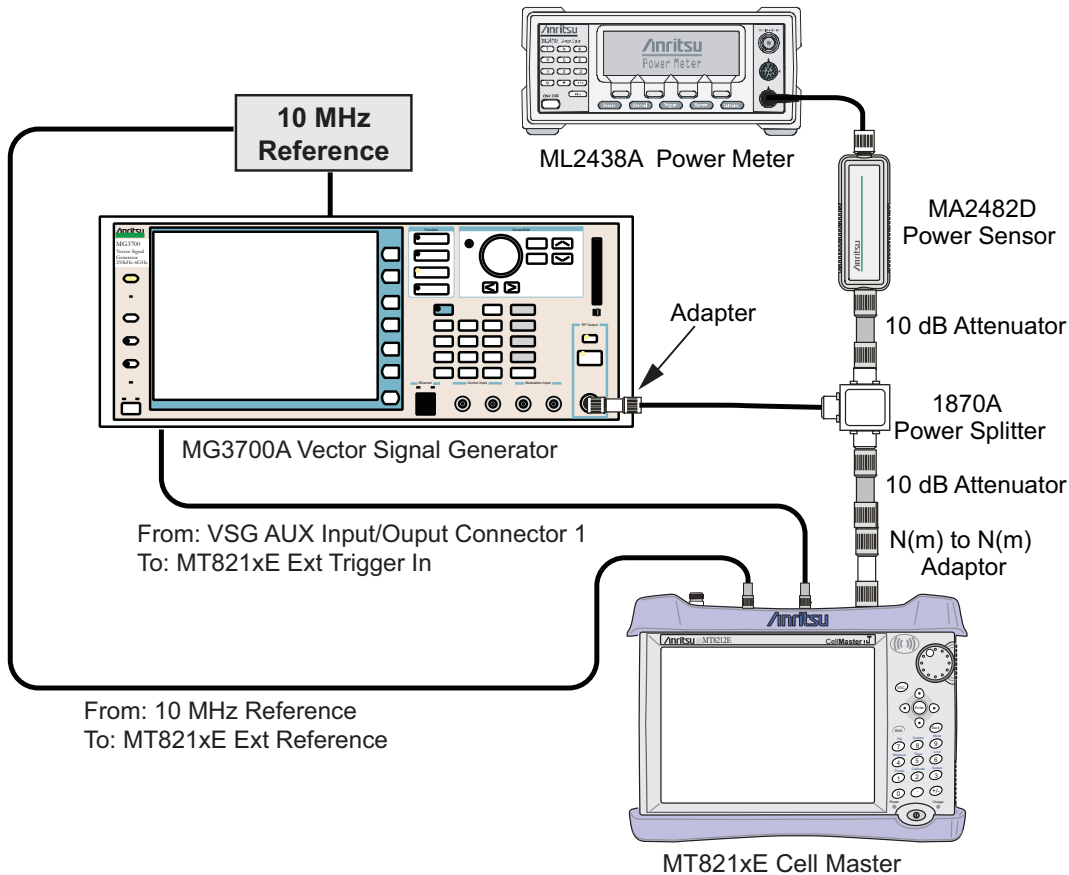

Figure 5-11. Fixed WiMAX Signal Analyzer Option Verification
3. Connect the equipment as shown in Figure 5-11.